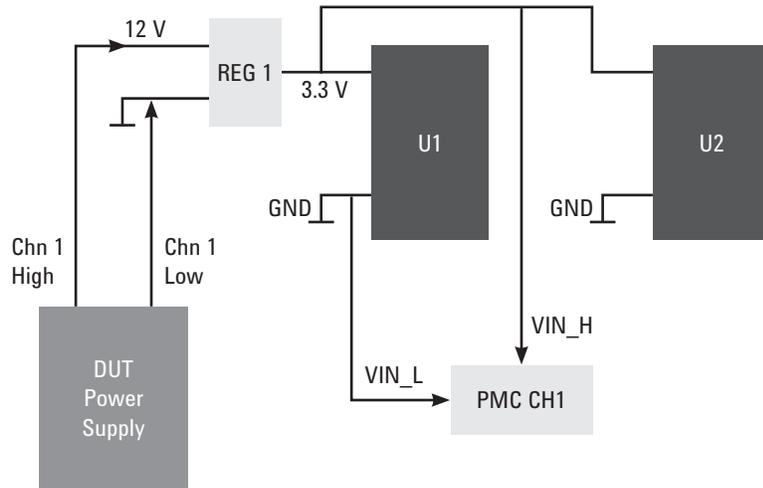

Figure 3. PMC connection to detect voltage failure
1. With reference to Figure 3, connect “3.3 V” node to “Vin_H” of PMC channel 1. Mint pin/personality pin location is 213173.